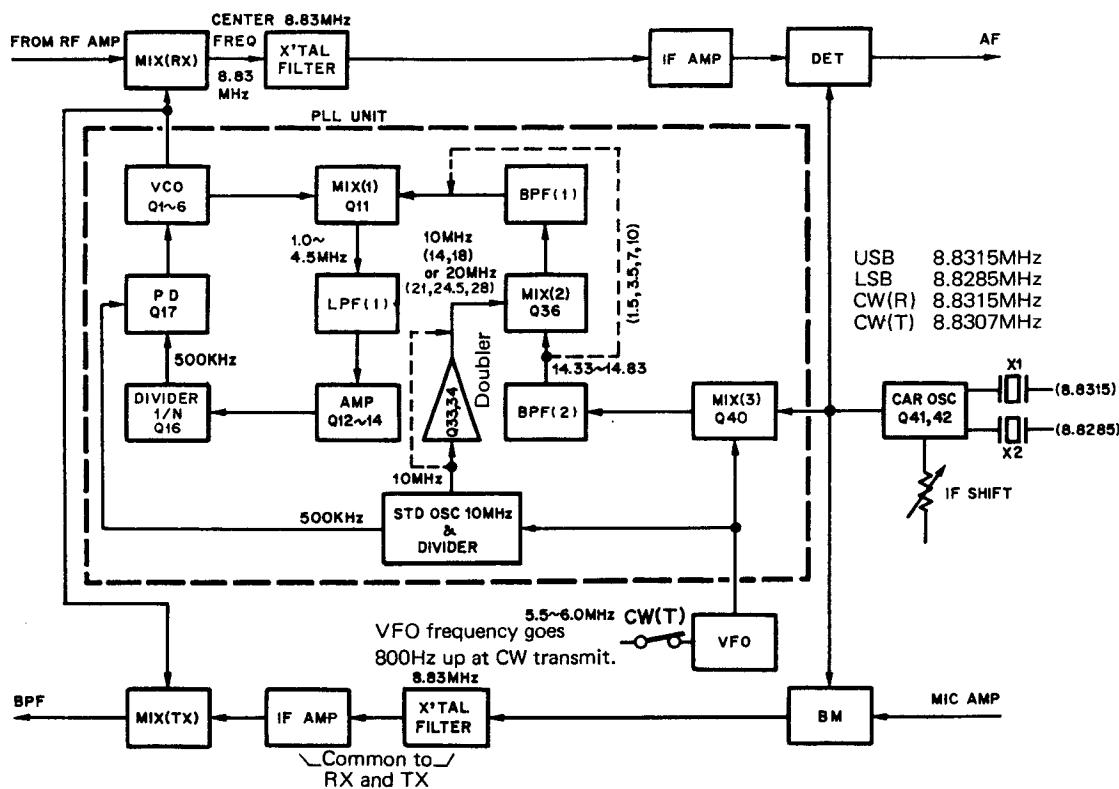
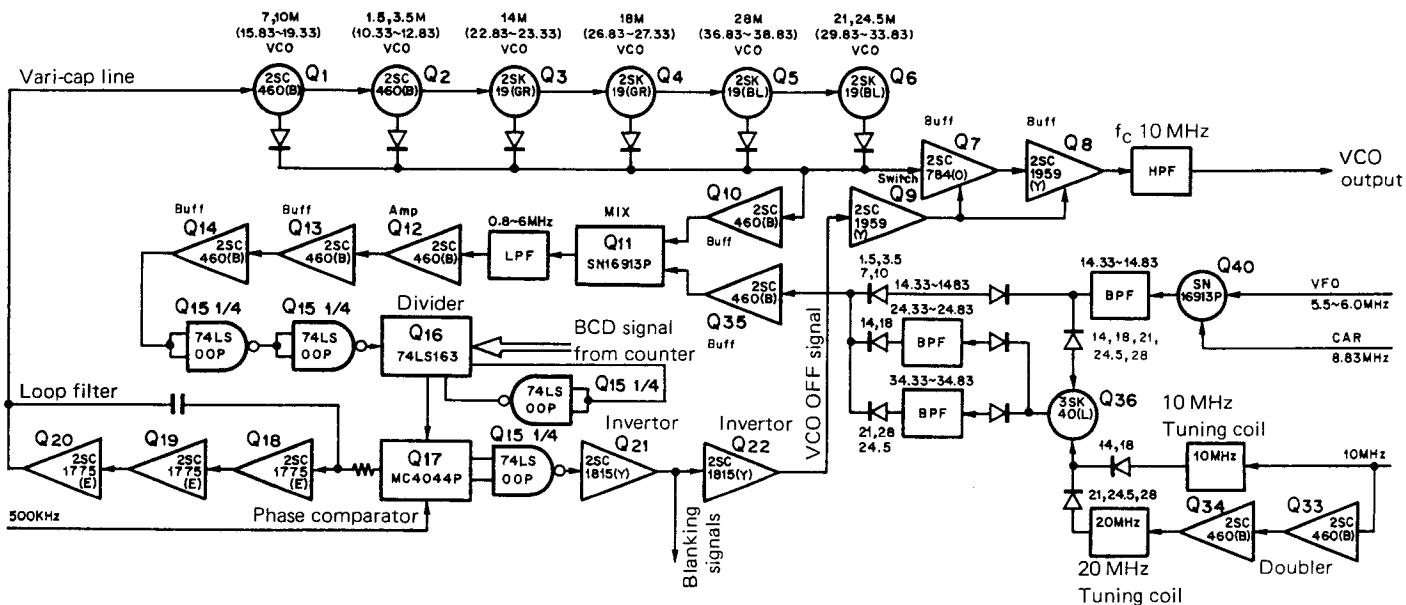

Fig. 1 TS-530 Frequency configuration
Fig. 2 TS-530 PLL circuit configuration
Frequency organization of the PLL circuit is shown in Fig. 1, the circuit diagram in Fig. 2, and frequency organization in other circuits is summarized in Table 4. Please refer to Fig. 1 when reading the following description of PLL circuit operation. MIX (3), a double balanced mixer, mixes the CAR output with the VFO output. MIX (2), which operates for the 18 MHz band and above, mixes either 10 MHz, in the 14 and 18 MHz bands, or 20 MHz, in the 21, 24.5 and 28 MHz bands, with the output of MIX (3) to generate the appropriate frequency needed for each band, as shown in Table 4.
The CAR oscillator consists of a crystal controlled oscillator which uses two crystals : one for LSB and the other for USB and CW. Frequencies generated are shown in **Fig. 1**. The oscillating frequency can be varied by the IF SHIFT control during reception.